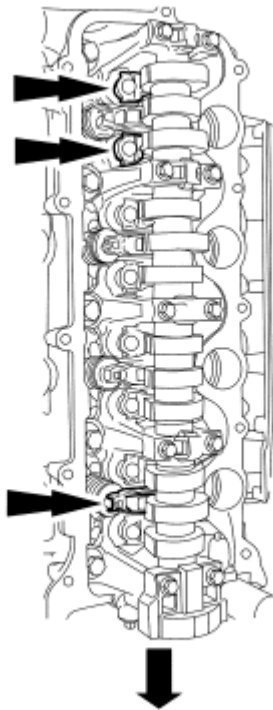

Fig. 309: Identifying RH Cylinder Head Camshaft Roller Followers And Bolts
54. Remove only the 3 roller followers shown in the **Fig. 309** from the RH cylinder head.